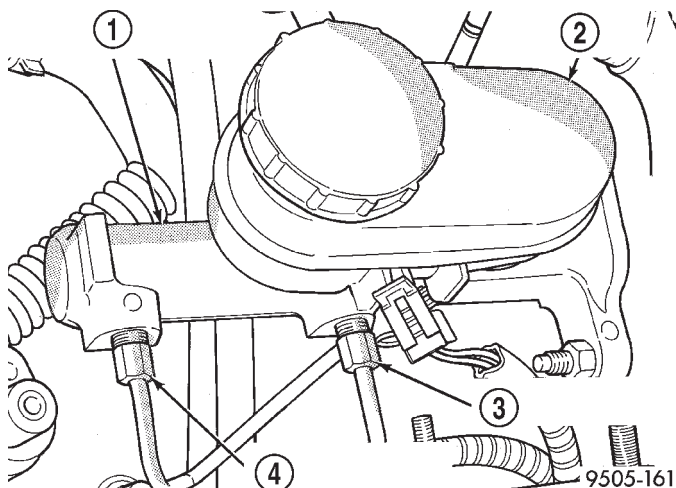
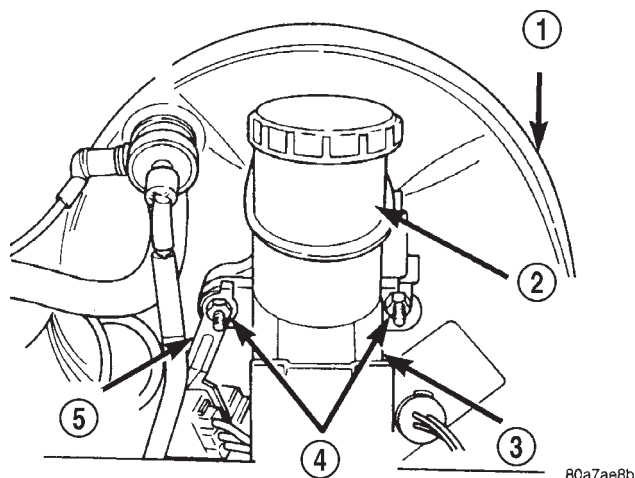
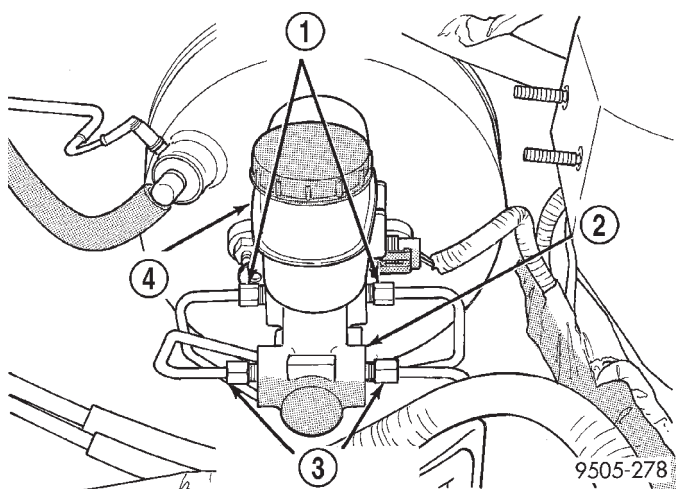

Fig. 53 Master Cylinder Primary And Secondary Ports With ABS
Fig. 55 Master Cylinder Mounting To Vacuum Booster
Fig. 54 Master Cylinder Primary And Secondary Ports Without ABS
(2) Disconnect the primary and secondary brake tubes from the master cylinder outlet ports (Fig. 53) (Fig. 54). Install plugs at all open brake tube outlets on master cylinder assembly.
(3) Using Mopar, Brake Parts Cleaner or an equivalent, clean the area where the master cylinder attaches to the vacuum booster.
(4) Remove the 2 nuts (Fig. 55) attaching the master cylinder to the vacuum booster.
(5) Remove the routing clip and chassis brake tubes (Fig. 55)(as an assembly) from the mounting stud for the master cylinder.
(2) Install the routing clip and chassis brake tubes (Fig. 55) on the inboard mounting stud for the master cylinder.
(3) Install the 2 master cylinder to power brake vacuum booster mounting nuts (Fig. 55). Tighten both nuts to a torque of 28 N·m (250 in. lbs.).
(4) Connect brake tubes to master cylinder primary and secondary ports (Fig. 53). Then tighten the tube nuts to a torque of 17 N·m (145 in. lbs.).